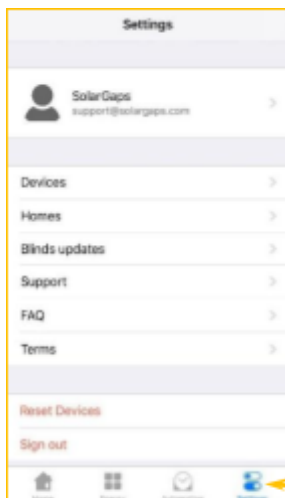

Figure 59
**10.14.1.** Click the application **Settings** menu (Fig. 59).